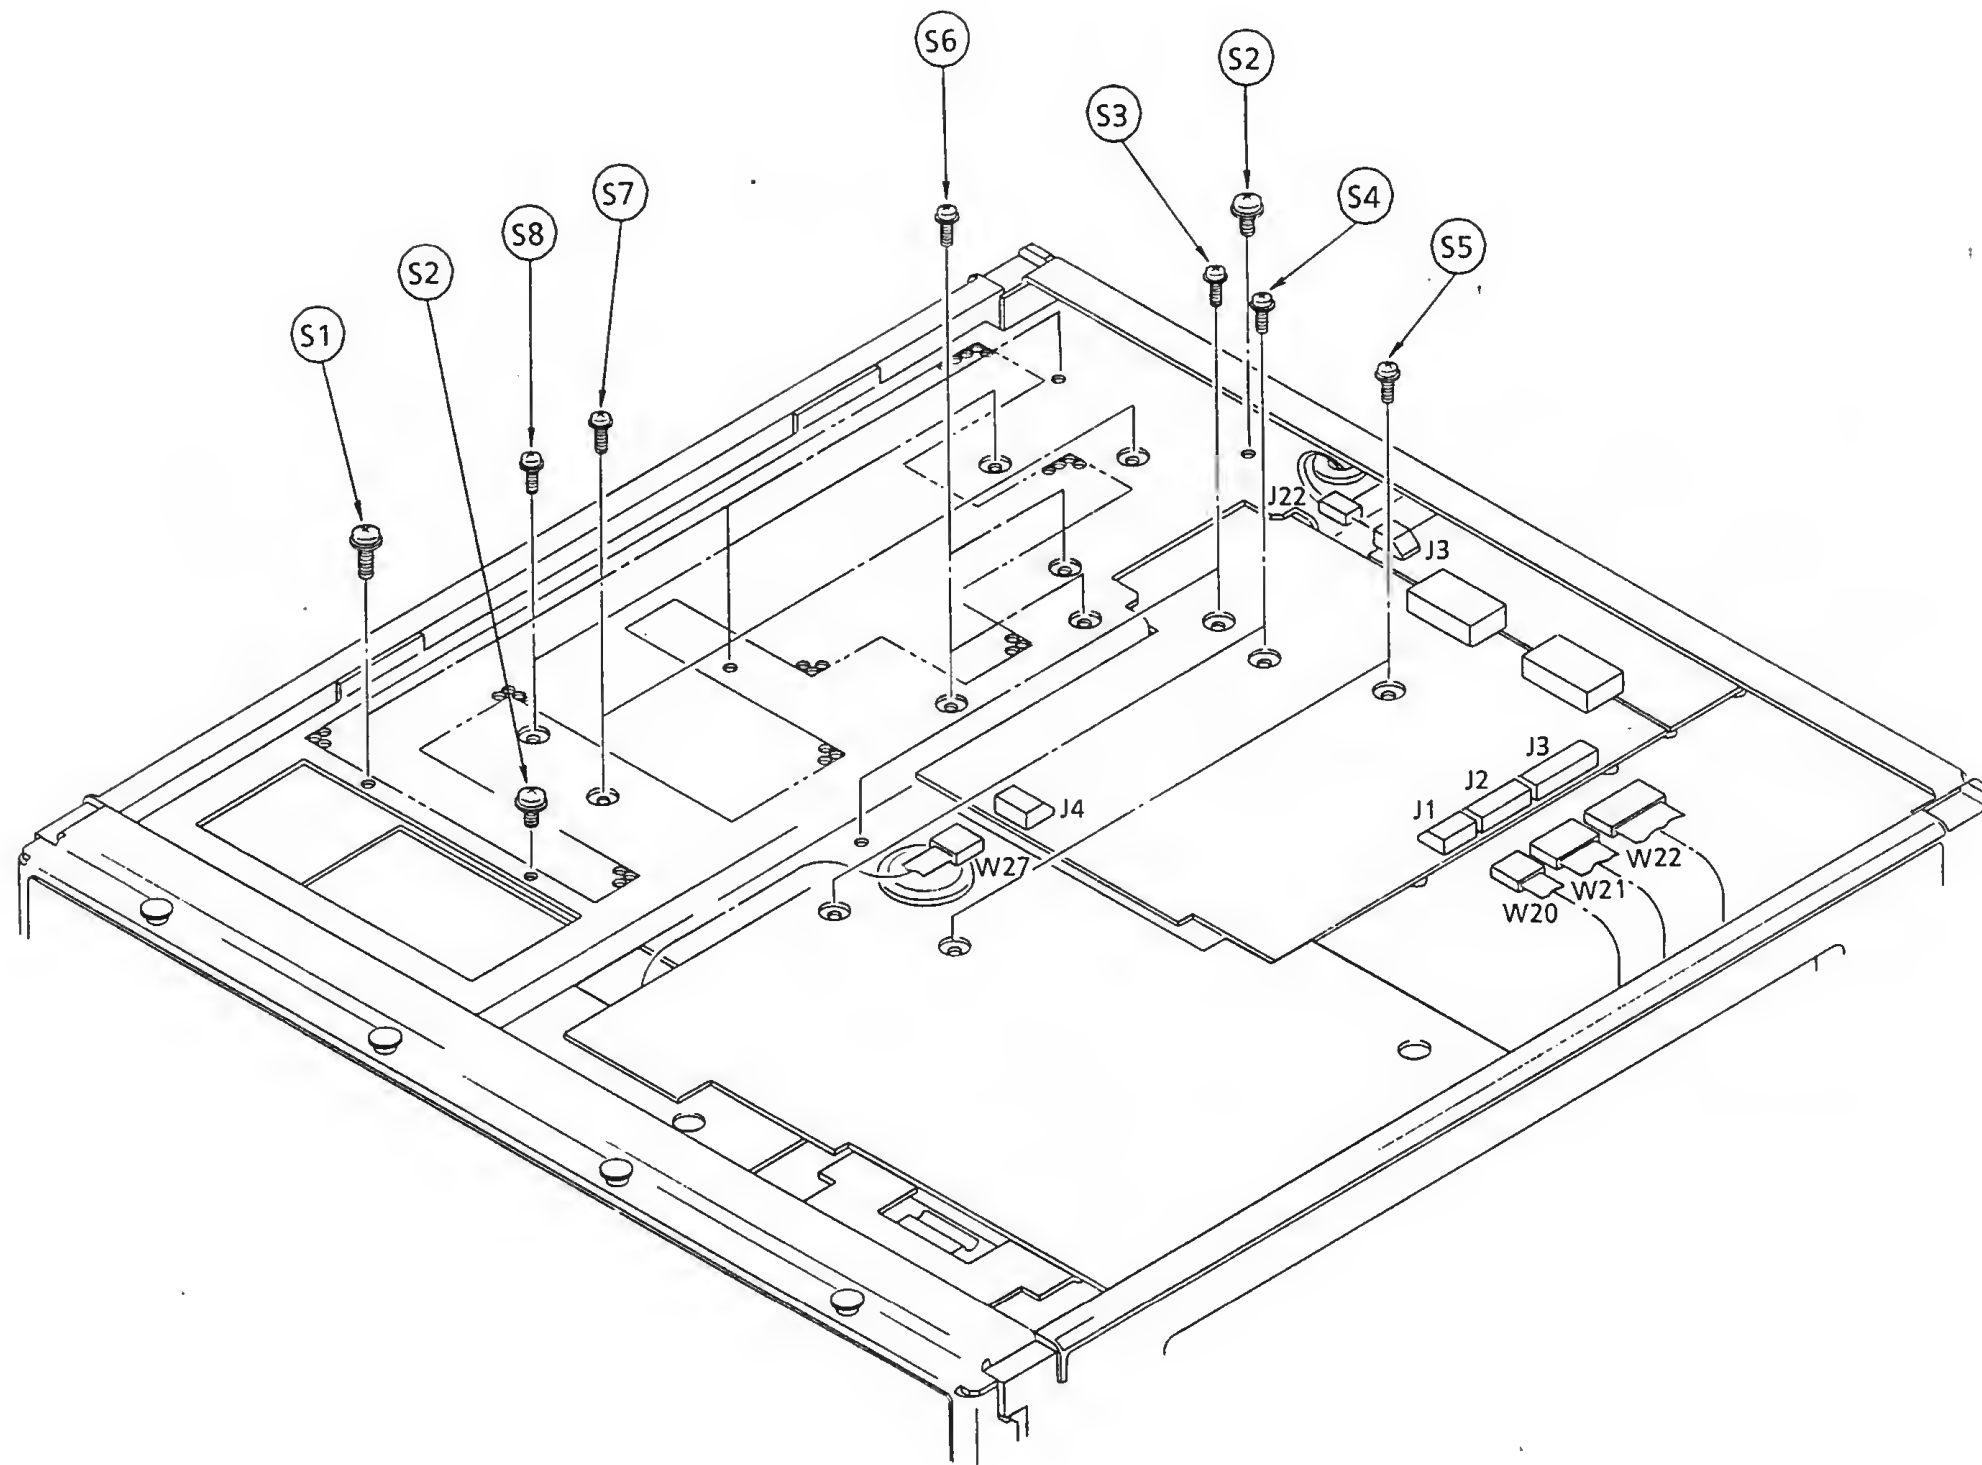

Fig. 5-4 Bottom View
2	Remove the four screws [S1], three screws [S1] and two screws [S2] (See Fig. 5-4).
3	Remove the two screws [S3] (See Fig. 5-4), then lift out the A3 unit ②.
4	Remove the two screws [S4] (See Fig. 5-4).
3	Remove the two screws [S5] (See Fig. 5-4) and lift out the A5/A6 unit ④.
3	Remove the three screws [S6] (See Fig. 5-4), and lift out the A1-A2 unit ①.
3	Remove the two screws [S7] (See Fig. 5-4), and lift out the A1-A3 unit ② in the above direction.
3	Remove the two screws [S8] (See Fig. 5-4), and lift out the A1-A4 unit ③ in the above direction.